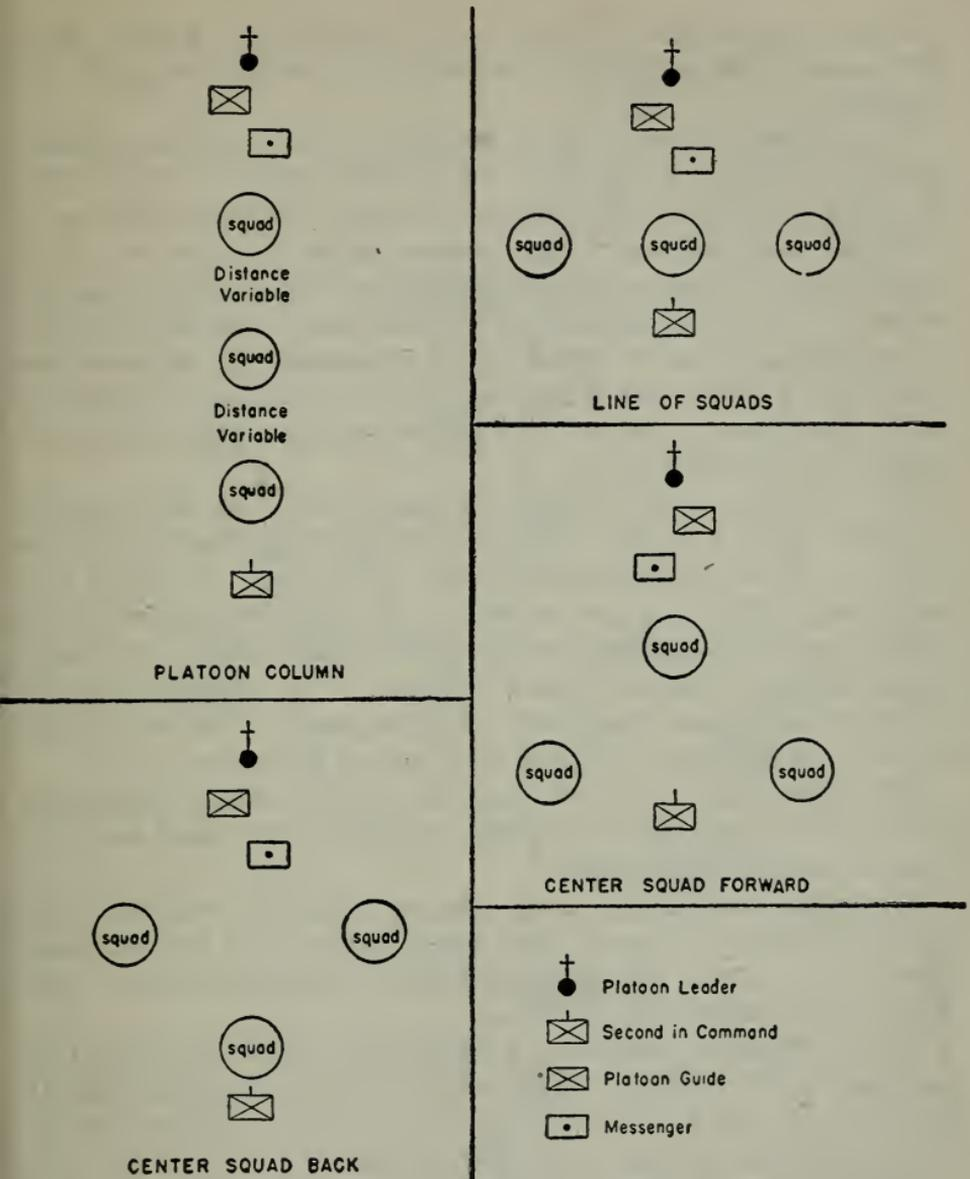

FIG. 56-4—Dispositions of the platoon.
(1) Column of threes.
(2) Column of twos.
(3) Platoon column (Fig. 56-4).
(4) Line of squads (Fig. 56-4).
(5) One squad forward, two squads back (Fig. 56-4).
(6) Two squads forward, one squad back (Fig. 56-4).
(b) *In squad columns with one squad forward.*—At the command *SQUAD COLUMNS, CENTER (OR OTHER) SQUAD FORWARD*, the center (or designated) squad moves in squad column to the front or in the direction indicated by the platoon leader, the other two squads move in squad column to the right and left until about 50 paces apart and follow the leading squad at about 50 paces unless otherwise indicated. If the leading squad is halted by the platoon leader, the other two squads move to the rear if necessary to gain a distance of about 50 paces. The squads maintain their relative positions (Fig. 56-4) with respect to the leading squad.